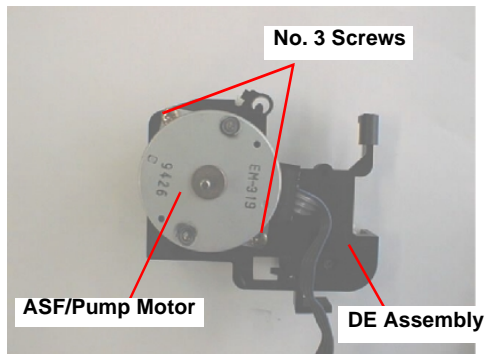

Figure 4-25. Removing the ASF/Pump Motor from DE Unit
- 13) Remove two screws (No.3) securing the ASF/Pump Motor to the DE unit. Refer to Figure 4-25.